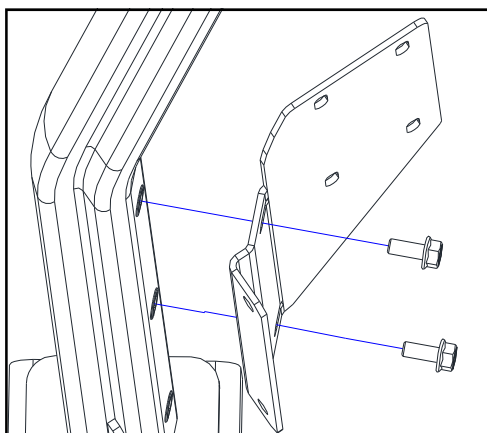

Fig. 3.2
3.2 Repeat for right front leg bracket, per Figure 3.2.